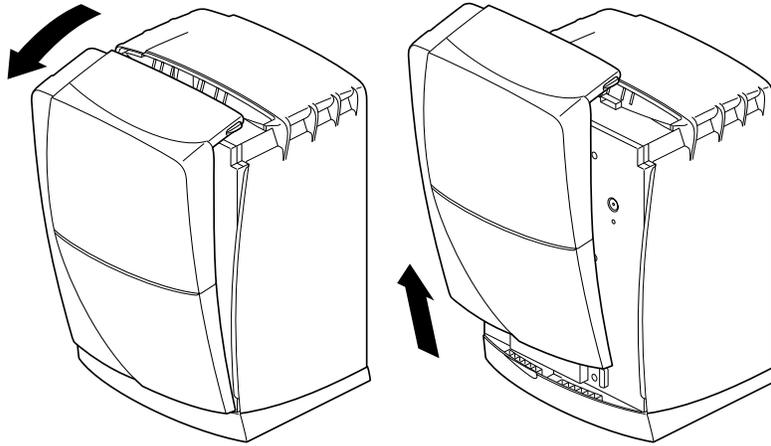

Figure 7-5 Removing the Bezel
5. Remove the bezel by tilting it forward, then lifting it from its release hooks at the bottom, as shown in Figure 7-5.